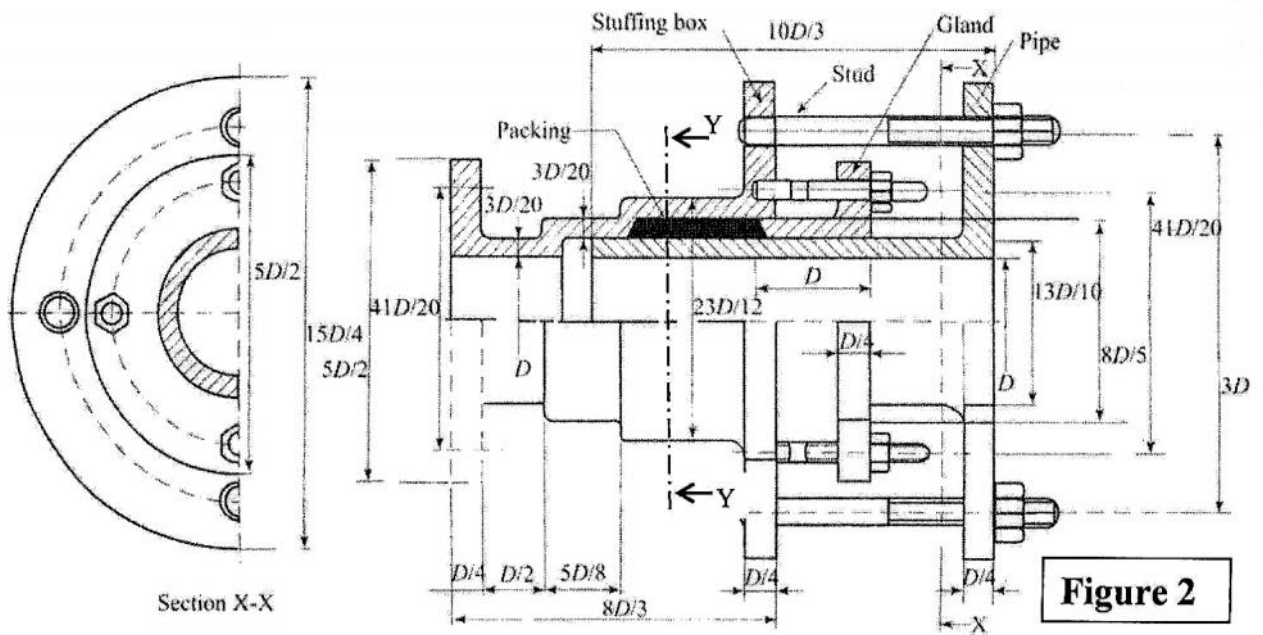

Figure 2
Q.5. Figure 2 shows the details of expansion type pipe joint. Draw full sectional side view of the assembly at section Y-Y.